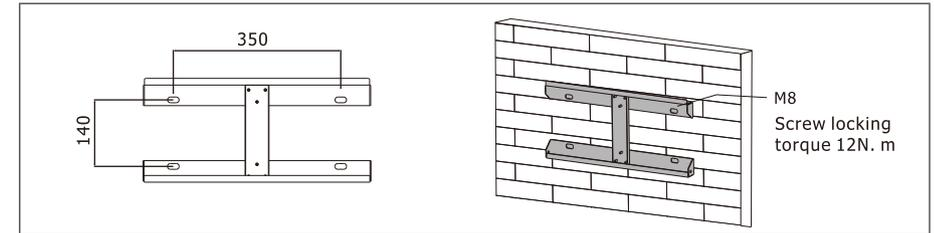

Figure 3.4-1 Install Inverter hanging plate
**Step 1.** Please use the mounting bracket as a template to drill 4 holes in the right positions (10mm in diameter, and 80mm in depth). Use M8 expansion bolts in accessory box and fix the mounting bracket onto the wall tightly. The installation of inverter support is shown in Figure 3.4-1.